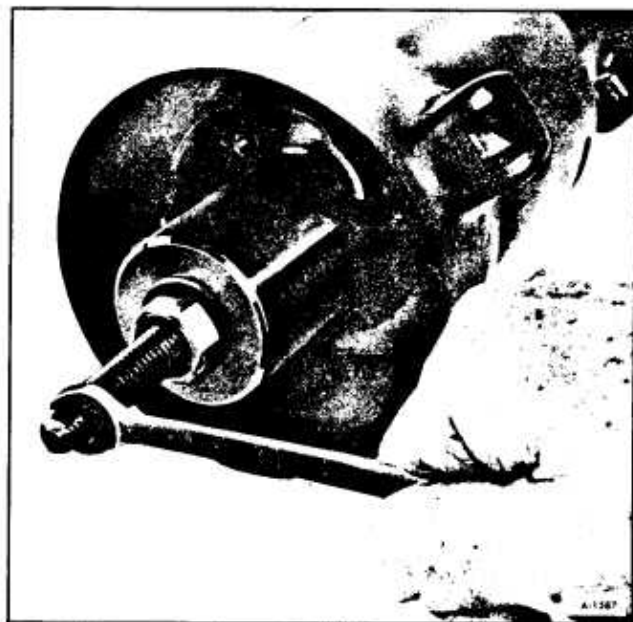

Figure 105—Installing Shift Tube
10. Carefully install shift tube in lower end of jacket. Align key in tube with keyway in bowl and use tool No. J-23073 to pull shift tube into bowl (figure 105).